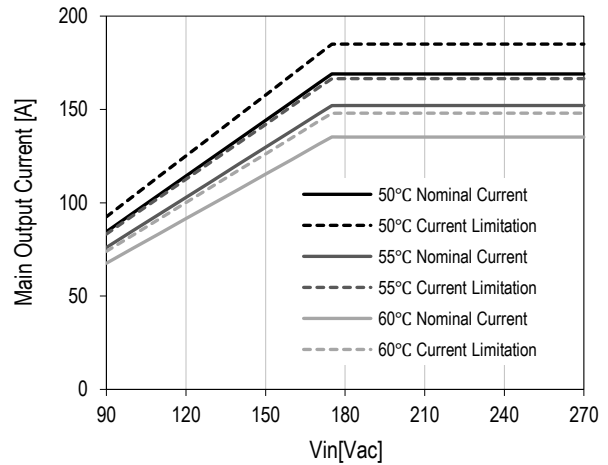

Figure 24. Derating on V_1 vs T_a & V_{in}
3) See Figure 24 and Table 1 for linear derating > 50°C
The main output current limitation level $I_{V_1\text{lim}}$ will decrease if the ambient (inlet) temperature increases beyond 50 °C (see Figure 24 and Table 1). Note that the current limitation on V_1 will kick in at a current level approximately 10A-16A higher nominal output current than is shown.